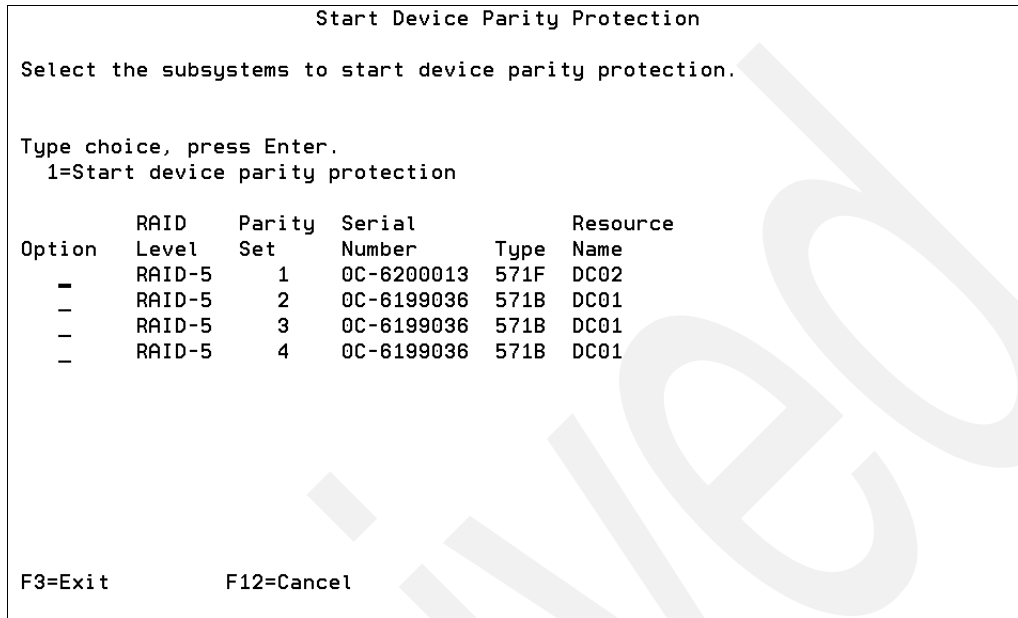
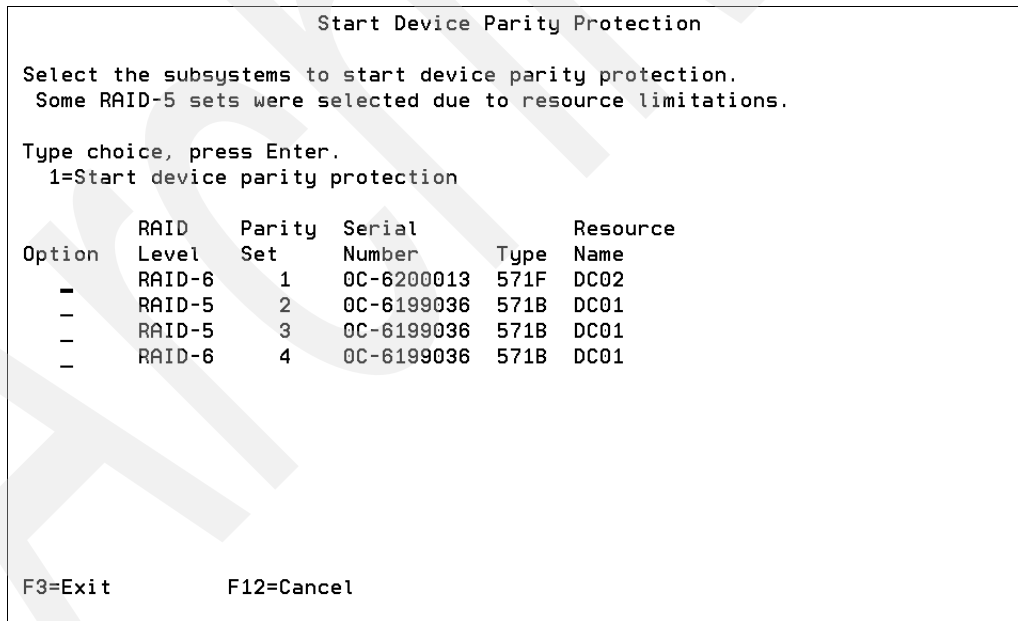

Figure 3-12 The Start Device Parity Protection screen
Figure 3-13 Start device parity protection selection screen at DST
5. If there are insufficient drives for RAID-6, the system automatically selects RAID-6 where possible, and RAID-5 where alternately possible (Figure 3-13). If there are only two disks of a particular size on an ASP, they will remain unprotected. In the Start Device Parity Protection screen (Figure 3-12), select the RAIDsets you want to start and press Enter.